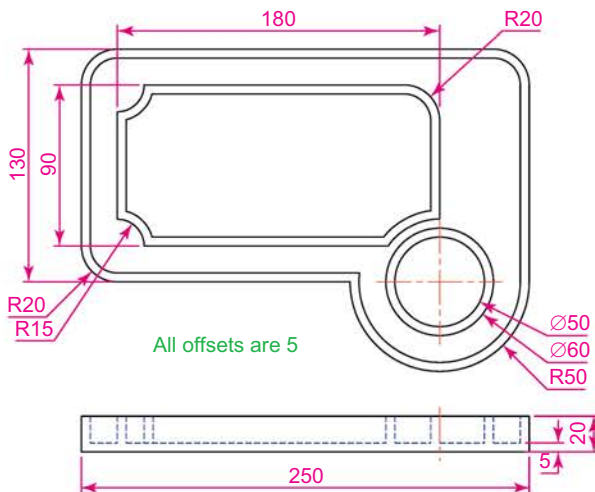

Fig. 19.9 Sixth example – Copy Faces tool – details of the 3D solid model
1. Construct a 3D model to the sizes as given in Fig. 19.9.